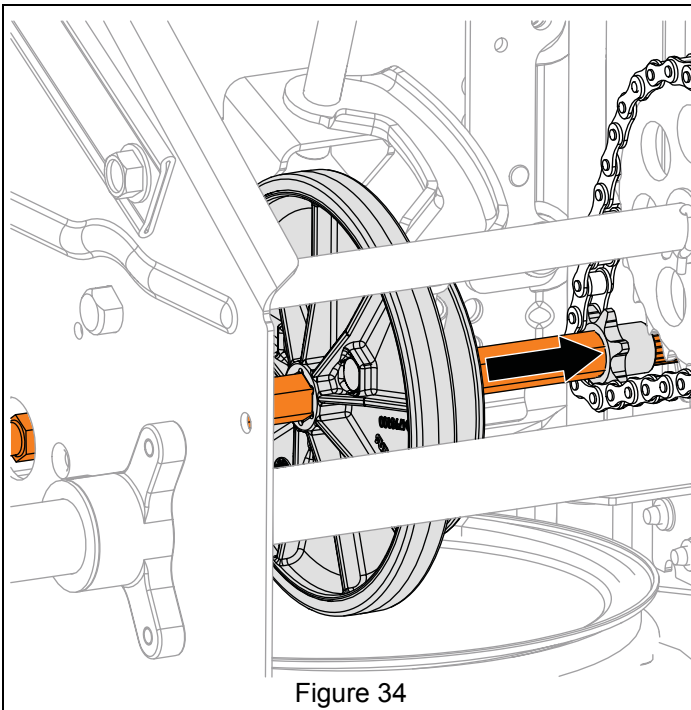

Figure 34
2. Reinstall hex shaft through friction disc, pinion sprocket and into frame. See Figure 34.